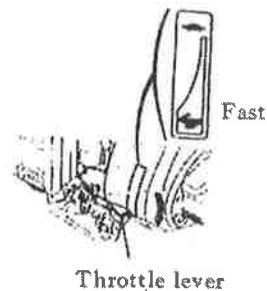

Fig. 11
6. Set the throttle lever in proper position to ensure the engine runs at required velocity (Fig. 11).